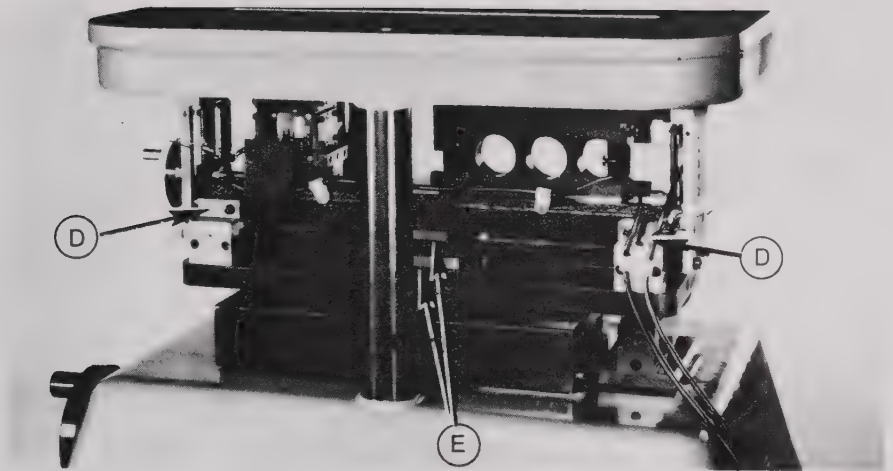

Figure 2. Model 136B-5, Rear View
Refer to Figure 2. From back of gage, remove two back mechanism braces, also red . . . two screws and one block for each brace (D). Then, remove cap screw and three shipping plates inserted in the gaging mechanism (E). Reattach front and rear cover plates. Note: Allow enough slack in Sensitive Contact Cable ((F), Figure 1) and gage head cord to permit free movement of gaging mechanism. Retain all braces, screws, wire and crate for future use, if necessary.